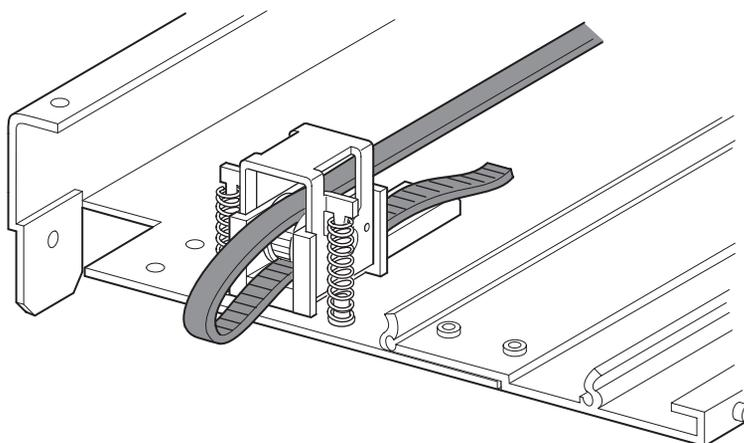
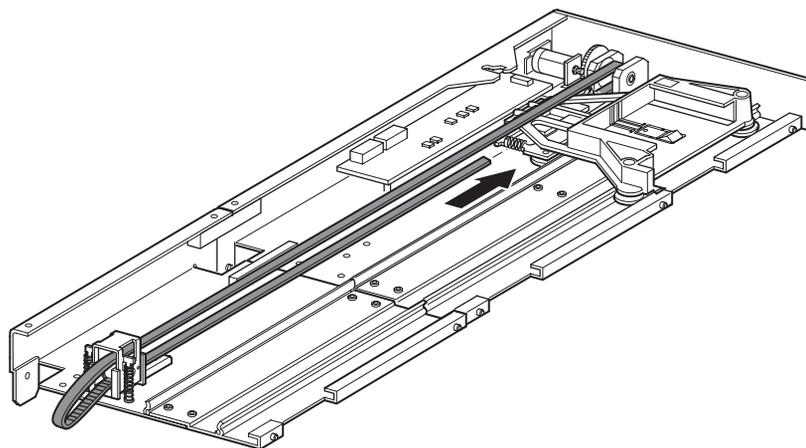

Figure 20: Installing the timing belt on the extension
Figure 21: Installing the timing belt
3. Thread the timing belt through the top of the belt tensioner ramp and idler pulley and then through the motor drive pulley. Make sure the belt teeth engage both pulleys (see Figure 20 and Figure 21 on page 41).